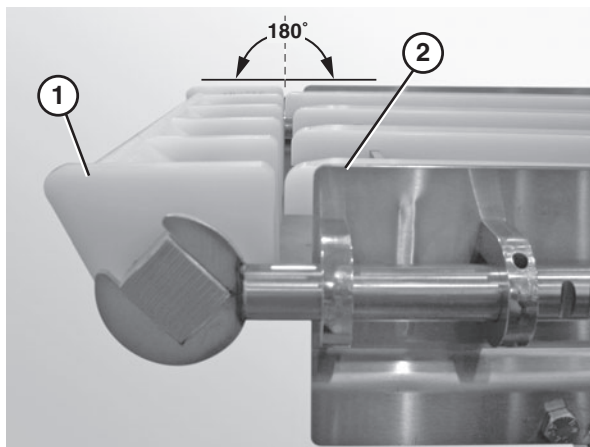

Figure 16
3. Ensure that the nose bar pucks (**Figure 16, item 1**) are in line with the conveyor frame (**Figure 16, item 2**).